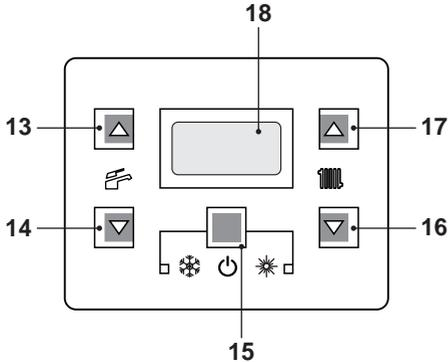
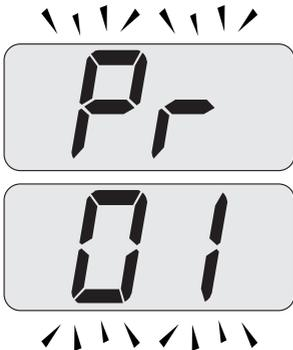
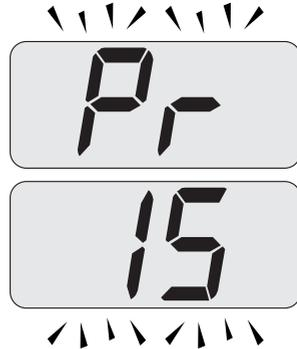

Fig. 7.16
Fig. 7.17
Fig. 7.18
- Enter in "programming mode" by pressing keys 15 - 16 - 17 (Fig. 7.16) for 10 seconds at the same time until the letters **Pr** that alternate with code 01 are displayed on the LCD display, indicating that "parameter 01, has been activated (Fig. 7.17).
- Scroll the various parameters using keys 16 or 17 until the letters **Pr** that alternate with code **15** are displayed on the LCD display, indicating that "parameter 15"(Fig. 7.18) has been activated.
- Press keys 15 and 17 (Fig. 7.16) at the same time until the value of parameter 15 (Fig. 7.19) is displayed on the LCD display.
- By pressing key 15 (Fig. 7.16) confirmation of the inserted value is obtained.
- Press keys 15 and 16 (Fig. 7.16) at the same time to exit without changing the value (return to the parameters list Fig. 7.18)
- Press keys 15 - 16 - 17 (Fig. 7.16) at the same time for 10 seconds to exit the "programming mode.
However, if the ambient temperature is not comfortable, the flow temperature of the heating plant can be increased or reduced by $\pm 15^\circ\text{C}$ by acting on keys 16 (reduce) and 17 (increase) (Fig. 7.16).